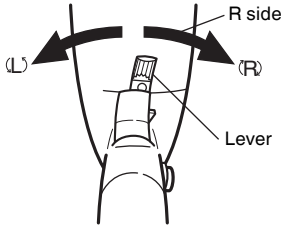

Fig. 1
4. Confirm the direction of bit rotation (Fig. 1)